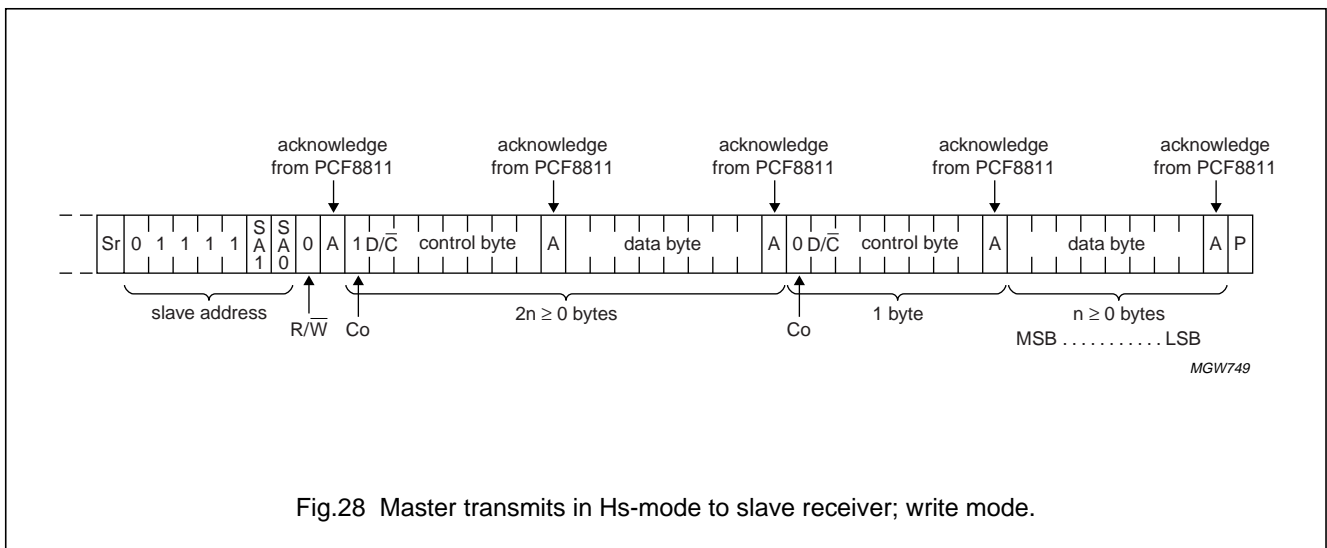

Fig.28 Master transmits in Hs-mode to slave receiver; write mode.
A write sequence after the Hs-mode is selected is illustrated in Fig.28. The sequence is initiated with a START condition (S) from the I²C-bus master which is followed by the slave address. All slaves with the corresponding address acknowledge in parallel, the remainder will ignore the I²C-bus transfer.
After the acknowledgement cycle of a write (\bar{W}), one or more command words will follow which define the status of the addressed slaves. A command word consists of a control byte, which defines C_0 and D/\bar{C} , plus a data byte (see Fig.28 and Table 4).